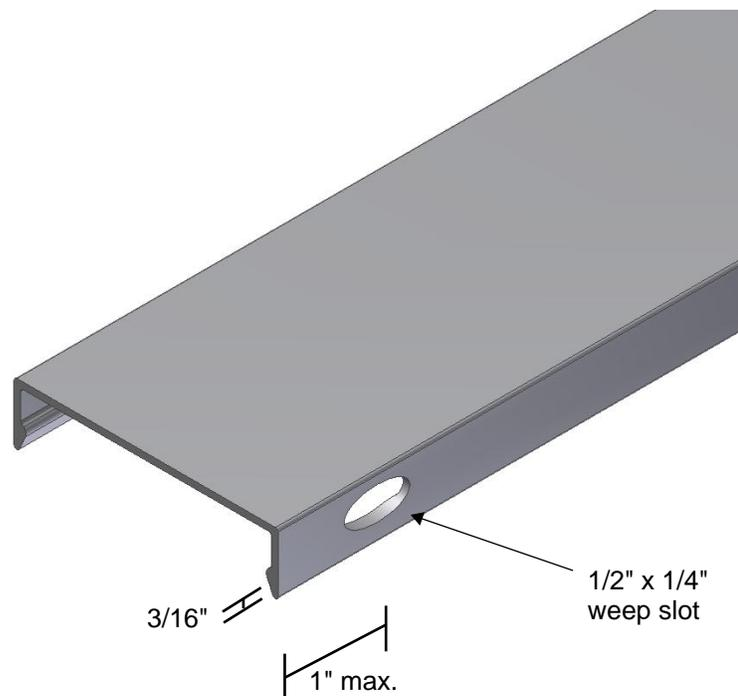

Figure 3: Mill a weep slot in the horizontal snap-on cover.
- Mill a weep slot a maximum of 1" from the end of the cover. The weep slots are to be 1/4" wide x 1/2" long as shown in Figure 3.